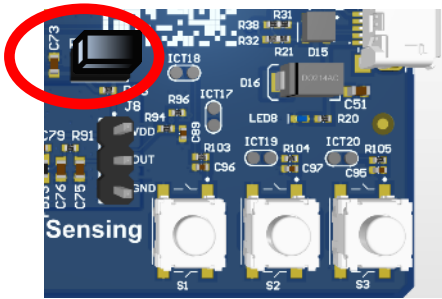

Fig.1 P8 Jumper
- Verify Jumper on is present on P8 (to power the Inductive position sensor circuitry) (Fig.1)